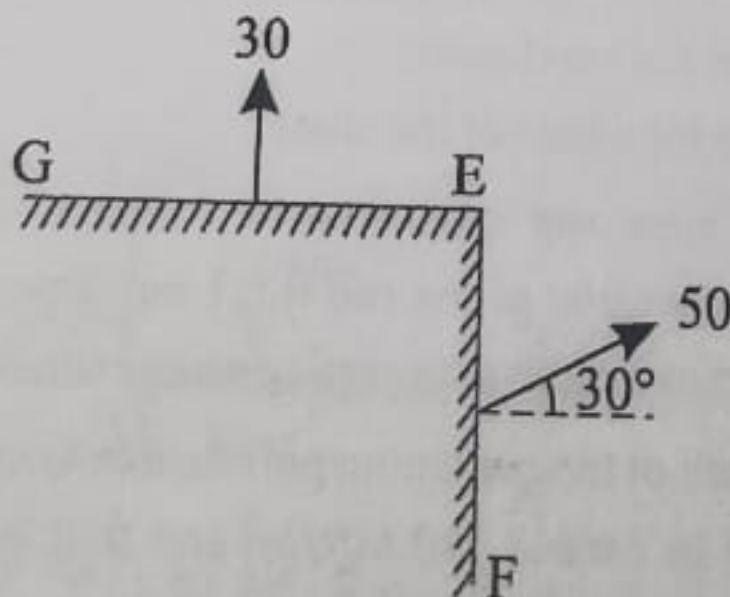

Figure 6
- 9.b) At a point in a material under stress (Figure. 6), the intensity of the resultant stress on a certain plane is 50 MN/m^2 (tensile) inclined at 30° to the normal of that plane. The stress on a plane at right angles to this has a normal tensile component of intensity of 30 MN/m^2 .